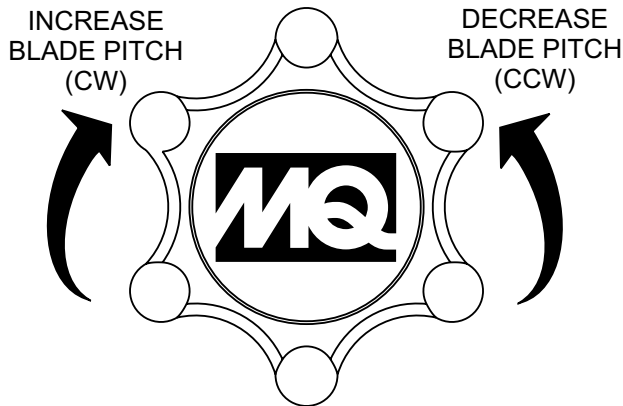

Figure 5. Adjusting Cable Blade Pitch (Standard Handle)
1. For trowels equipped with a **Standard** handle (SXHS), simply turn the **star wheel** counterclockwise to pitch the blades flat. This will release the tension on the blade pitch cable (Figure 5).